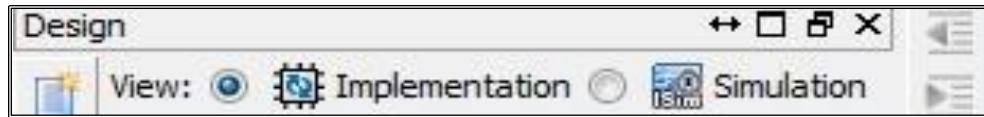

Fig 6.8: Design Implementation
- For the implementation of the design, select **Implementation** Button in the Hierarchy window on the left pan (Fig 6.8).